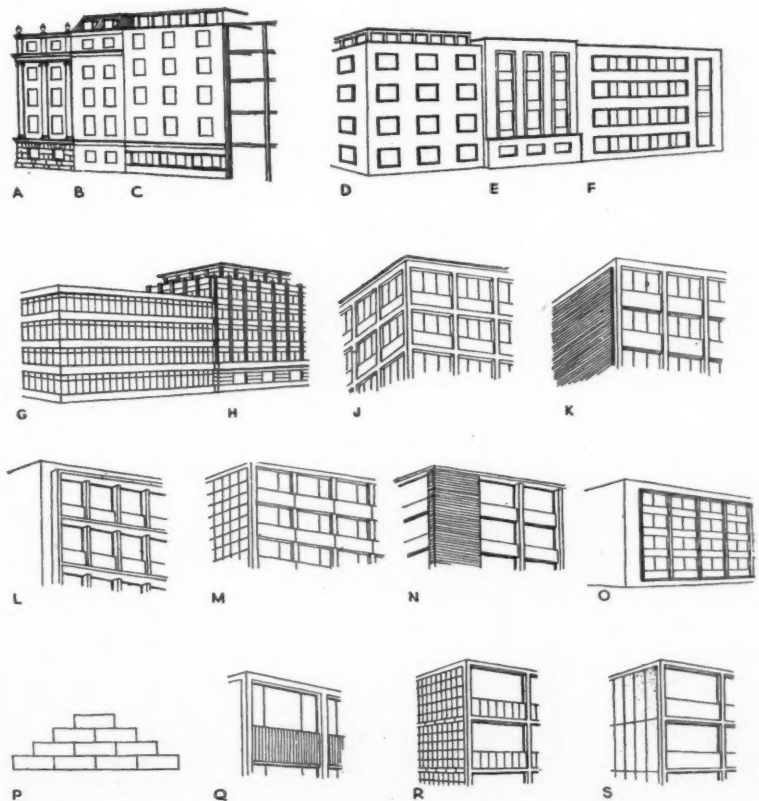

Figure 4.
The "Classic" revival disguise Fig. 4, (A) is now out of fashion, but the "shorn Classic" Fig. 4, (B) or the "Classic-modernistic" Fig. 4, (C) are still favoured when a dignified effect is sought.
Fig. 4 (B) gets some more floor space by adding a mansard, but sheds the classic trappings. It does however retain the proportions of the classic order, which neither expresses the proportions of the rooms behind the façade nor the structural frame.
Fig. 4 (C) is an improvement, as the windows indicate the even floor height, but they are a "hole in the wall" rather than a frame expression. The ground and top floors carry on the tradition of the classic rusticated base and attic, but in a modern idiom—the continuous horizontal window pattern and the projecting flat-roof plane. Both are horribly macabre in such a context. You may remember, by the way, that there was quite a run on this particular combination for Town Hall competitions before the war.
rather than a vertical direction. A single pattern of wide rectangular windows as in Fig. 4 (D) is a better expression than the previous examples.
The windows may be joined together vertically by panels, of say, cast iron between them as in Fig. 4 (E). This is a favourite expression for telephone exchanges—I have not the least idea why. The building looks to me no more as if it holds telephone equipment than office workers.
Fig. 4 (F) joins the windows horizontally by continuing the lintel and the cill and using a different coloured brick between them—the very popular ham sandwich style. It gives some idea of the horizontal floor space, but otherwise expresses only the commonplace.
In the horizontal type the windows pass in front of the column, or are clipped to its face, and the walls are treated as continuous panels supported by the beams. We thus have alternating horizontal ribbons of wall and window, as in Fig. 4 (G). With the vertical type Fig. 4, (H), the columns are exposed on three sides and run straight up for the full height of the building; the windows are combined with the panels under them to make
A functional expression of the framed office is shown in my next sketch Fig. 4. (J). It is what Mr. J. M. Richards has called a diagrammatic façade, a façade which may be a suitable background to an urban scene. It is not, of course, a complete expression of structure—you will remember Mies van de Rohe in his Chicago flats expressed the diminishing thickness of the columns—and, all told, it is not subtle or interesting enough to sustain our interest.
Fig. 4. (K) shows some refinements. First the grid of the façade is contrasted by a blank end wall—a point I have already made. Then the brick panel wall is carried on a nib hung from the floor beam (the boot lintel again). This makes the columns slightly more emphatic in their verticality, and sets up an even rhythm across the façade. The proportion of the panel counteracts the upward thrust of the columns, and there is a regular vertical rhythm between panel and window. The floor is expressed by the horizontal lines of the boot lintel or, of course, the ceiling seen through the windows.
To what extent you express the column, the floor or the panel doesn't, I suppose, matter a scrap, provided that the pattern is reasonably balanced. In Fig. 4. (L), the floor slab is brought forward; it has the disadvantage that it provides long ledges for the dust to rest on, and calls for flashing. And in Fig. 4. (M), the panel passes in front of the column, but its horizontality is counteracted by the joint lines on the column centres.
In the next sketch Fig. 4. (N) the blank end wall is brought to the front façade, and a window placed on the end—as when a staircase is placed in the corner. This is a combination of the wall as a flat plane with the framed façade—a combination which needs very careful handling. For instance, the edge of the flat roof may be in proportion to the main façade, but when carried over the wall it takes on the appearance of a coping and may look too heavy.
This is counteracted when the wall is carried up and returned as a parapet with its own coping, as in Fig. 4. (O). The parapet has its counterpart in a brick base, the complete building thus being framed. This is one of the most typical clichés of contemporary design—a geometric grid of window, column and panel, framed in a blank wall.
As Fig. 4. (P) tries to show, the staggered perpenders appear to carry the weight down to the ground; or conversely, there is a pyramidal building up of mass—a reflection of the pyramidal form of the large load bearing building I illustrated a few moments ago. The purist designing a brick panel wall is likely therefore to use a bond which avoids a pyramidal pattern, such as a herringbone or brick on end, like Fig. 4. (Q).
Although stone is bonded into a brick backing in many framed buildings, this is obviously less economical than applying it in slab form. With the stone reduced in thickness to a slab, it may be larger in area, and this, together with the greater freedom in assembling the slabs, makes it quite easy to devise a skin-like pattern. Most designers use a plain rectangular pattern for panel walls, as shown in Fig. 4. (R), as this is furthest removed from solid block patterns, but in the large blank end façades all kinds of patterns have been devised. A favourite system is to break down the area into a series of panels, reflecting the frame, and therefore the front façade.
Fig. 4. (S) shows vertical units on an end wall. An actual example is Anthony Chitty's flats for Holborn and St. Pancras. And F. R. S. Yorke in his schools has worked out a series of designs with the slabs laid horizontally.
The most complete expression of the skin takes place when the window plane is identified with the wall plane—when the two surfaces merge together as one overall pattern: for example, when the whole façade is treated as an overall lattice in which are inserted glass or wall panels as necessary Fig. 4. (D). The all-glass façade is the extreme example, however, although our urban scenes are so chaotic that one might welcome the intrusion of some straightforward diagrammatic façades. Glass is too cold and unsympathetic a material to form the major background to our city centres. I know the arguments about the façade reflecting sky and trees, but that does not compensate one for the loss of natural surfaces like brick, stone, wood and marble.
The same effect has been obtained on the upper floors, where a long gallery or window cuts across the building, revealing the columns for a floor height. The gallery in a block of maisonettes is sometimes handled in this same way Fig. 4 (B).